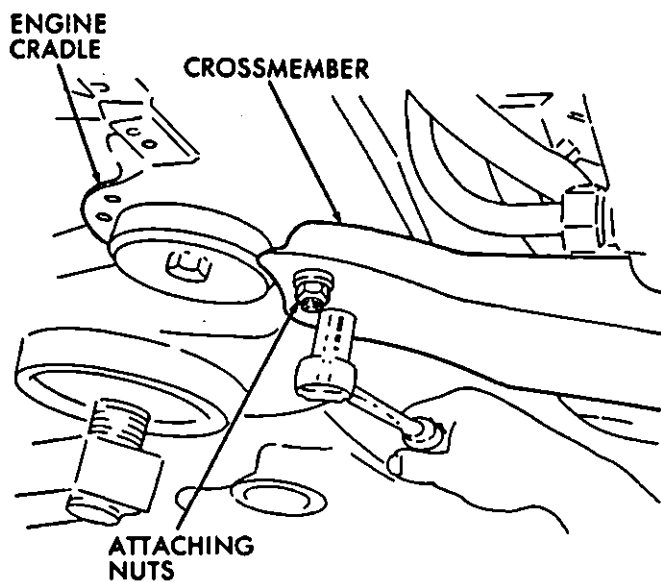

Fig. 4—Crossmember/Engine Cradle
(5) Remove the nuts attaching the crossmember to the engine cradle (Fig. 4).